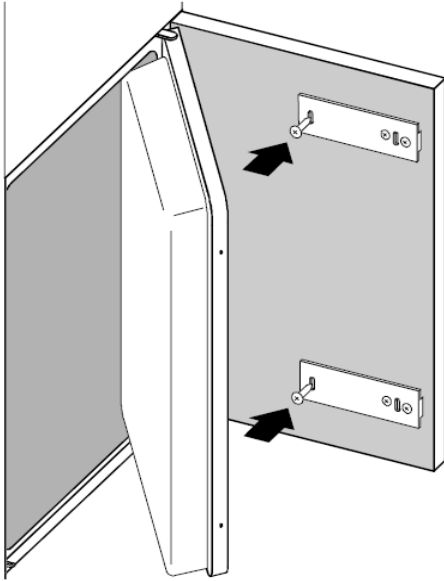

Fig. 4
- 6) Fix the slides, being careful not to move them while fixing them into place (Fig. 4, at left).